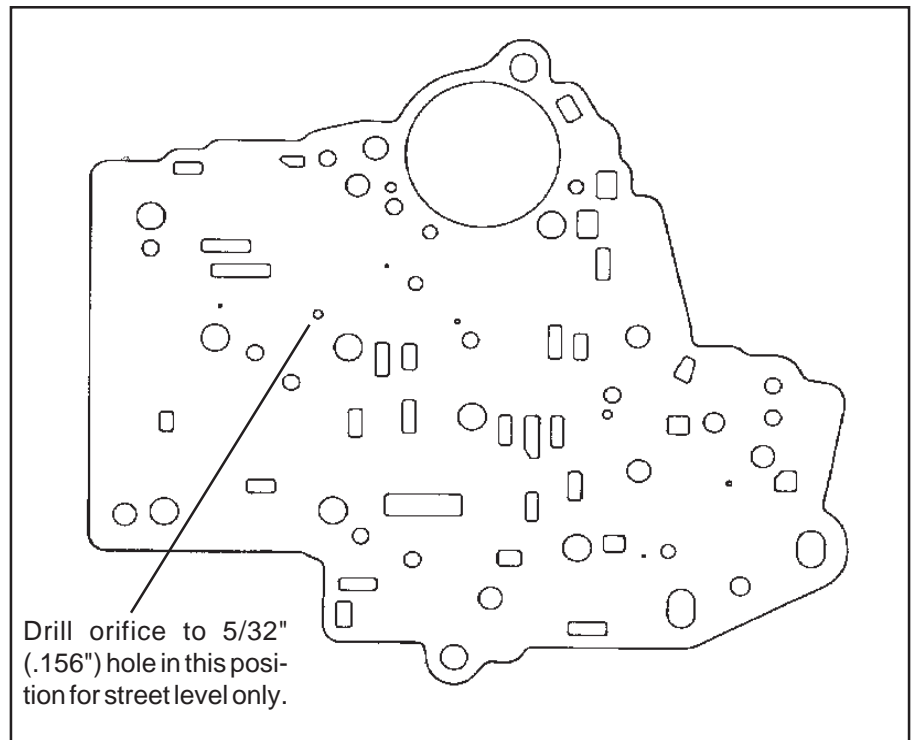

Figure 9
**STEP 7. Street level only:** Drill the **B&M** Separator Plate orifice indicated in **Figure 9** using the 5/32" (.156") drill supplied in kit. After drilling remove burrs from around hole with a flat file or sand paper.